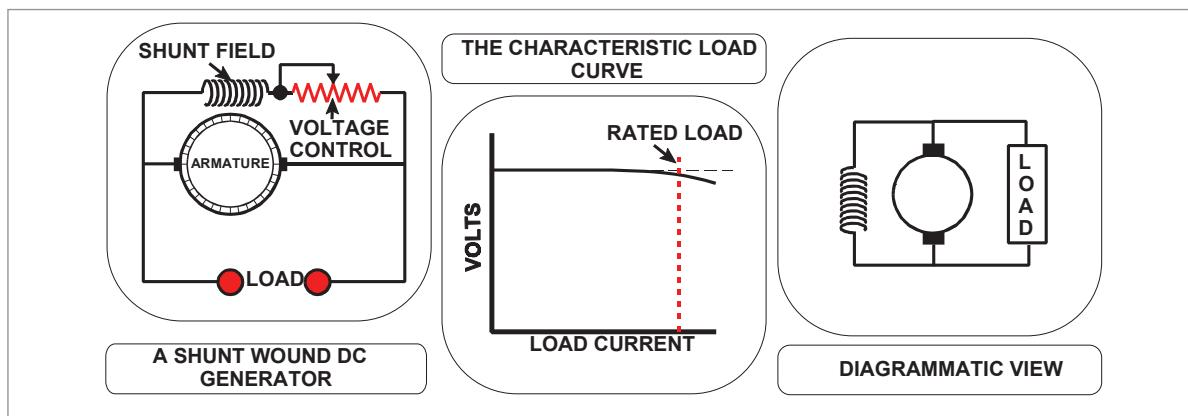

Figure 6.12 Shunt wound generator
*Figure 6.12* shows a schematic diagram and characteristic curve for the shunt generator. It should be noted that over the normal operating range of 'no load' to 'full load', the drop in terminal voltage as the load current increases is relatively small. The shunt generator is therefore used where a virtually constant voltage is desired, regardless of load changes.